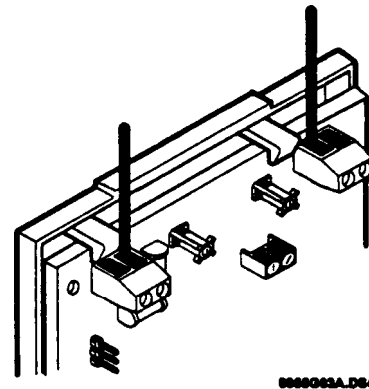

Figure 5. Connecting Expander Antennas
- Tighten the terminal screws (see Figure 5).